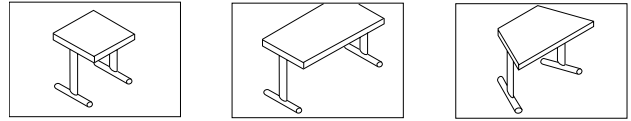

Figure 3 - Freestanding Tables
- All square, rectangle and trapezoid shapes are able to act as freestanding tables (**Figure 3**).